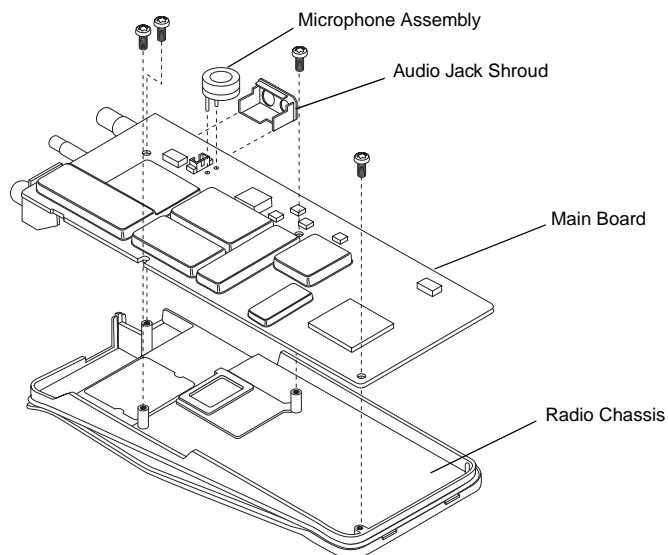

Figure 2-7. Removal of Main Board from Chassis
2. Use a Torx™ screwdriver with a T6 bit to remove the four screws (Figure 2-7) holding the main board to the chassis.
5. Lift the main board from the chassis (Figure 2-7).